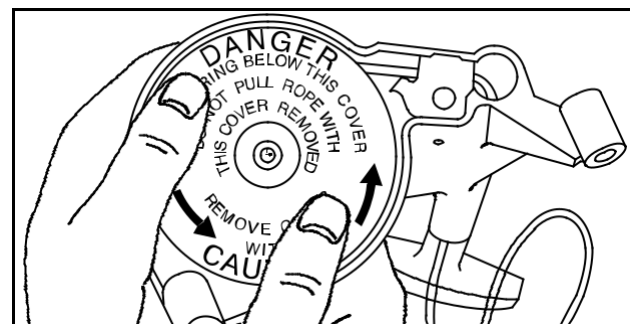

Fig. 632 – RETRACTING
9. Rotate pulley in a counterclockwise direction until rope is fully retrieved, Fig. 632.